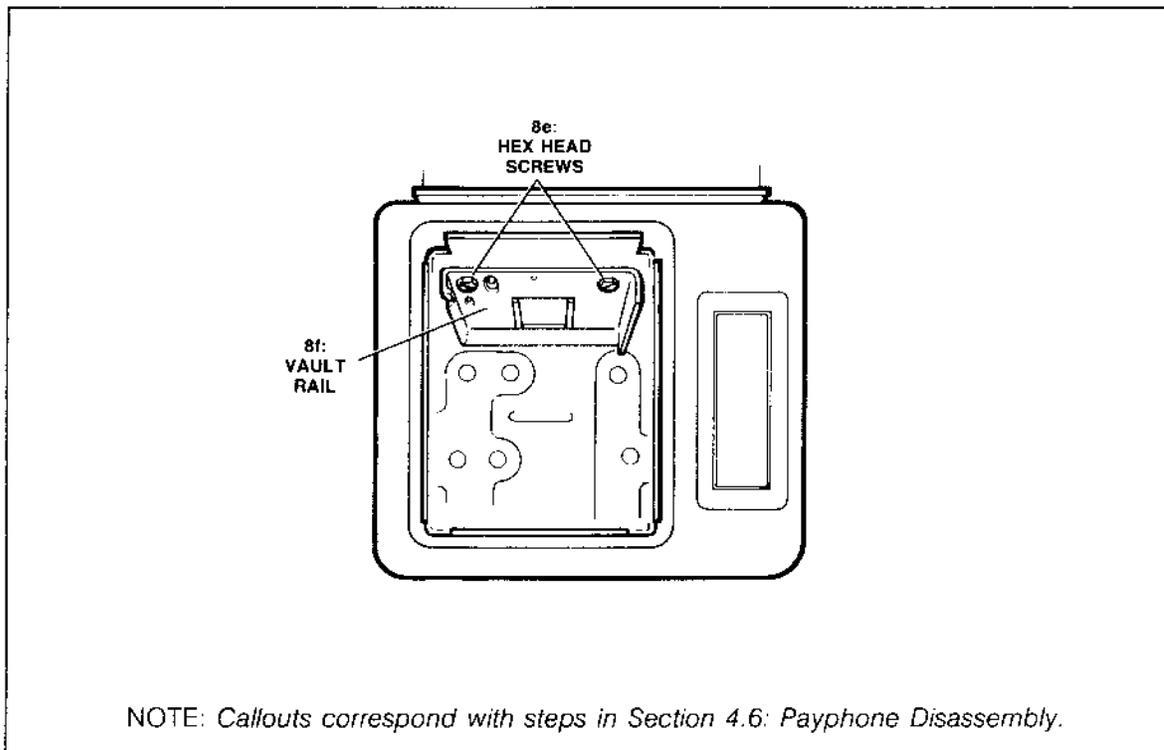

FIGURE 7. DISASSEMBLY --CASHBOX VAULT.
- e. Unscrew and remove the two hex head screws from the rail or top plate on the ceiling of the cash-box vault. See Figure 7.